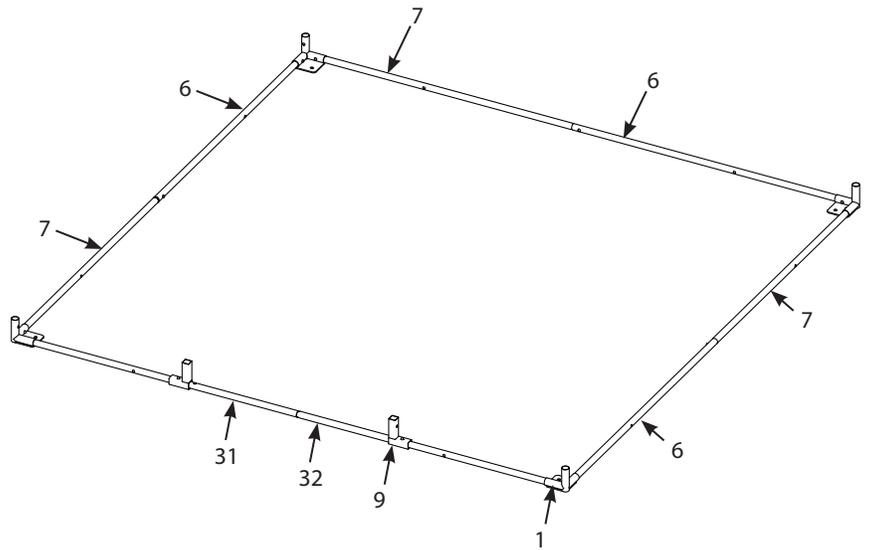

FIGURE 1
Locate the four base hubs (1), three (6) poles, three (7) poles, one (31) pole, one (32) pole and two door hubs (9). **SEE FIGURE 1.**
Slide each (7) pole into the corresponding (6) pole so that the snap button secures both parts together. **SEE FIGURE 1.**
Slide the (32) pole into the corresponding (31) pole so that the snap button secures both parts together. **SEE FIGURE 1.**
Slide the two door hubs (9) down to the second snap pin in assembled (31, 32) poles as shown so that the snap buttons secure the parts together. **SEE FIGURE 1.**
Slide the three assembled (6, 7) poles and one assembled (31, 32) poles into the four base hubs (1) so that the snap buttons secure the parts together. You should now have the bottom tier frame of the blind assembled. **SEE FIGURE 1.**